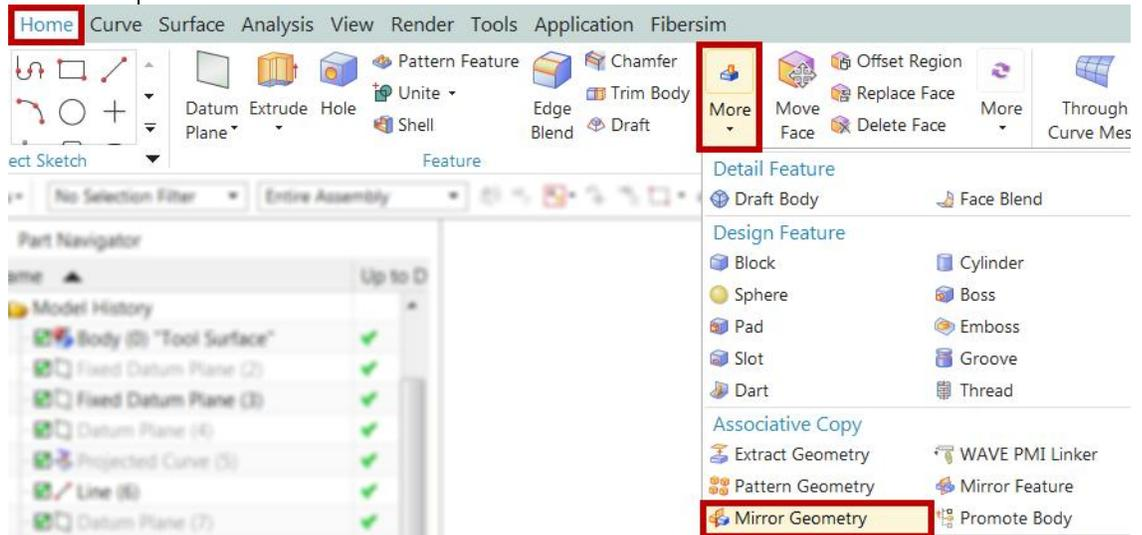

Figure 6–48
2. Select the following geometry as shown in Figure 6–49: